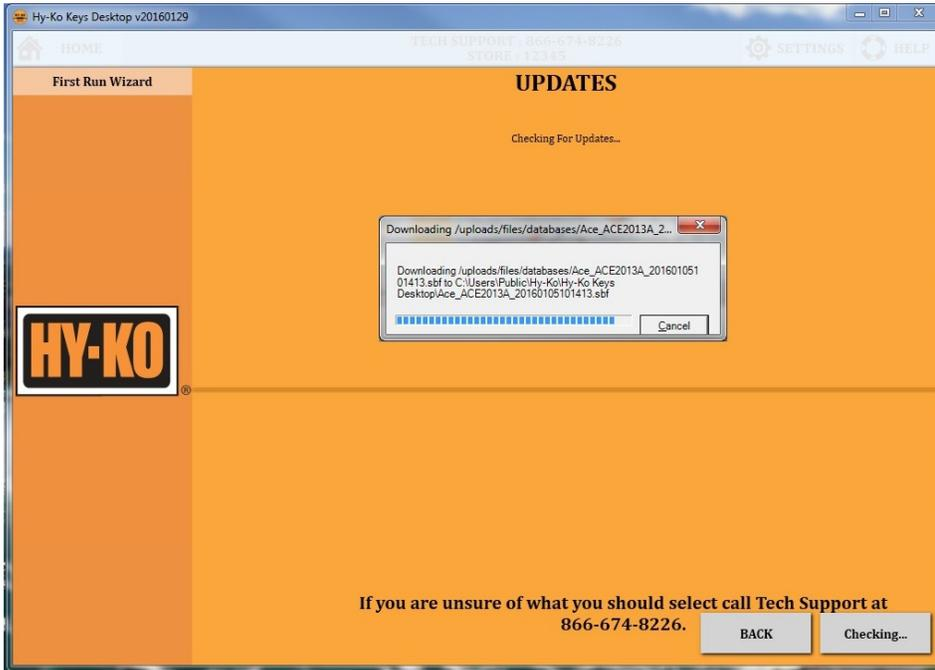

fig. 11
- More updates will begin to download. Be patient as the downloading process can take a few minutes. These updates are to make sure you have the latest vehicle applications for the database (see fig. 11).